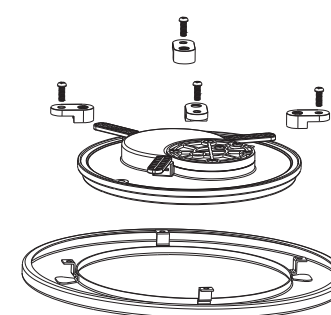

Figure 8
- 3) Figure 8, first loosen the four screws and then remove the clamping block, Remove and replace the lamp.